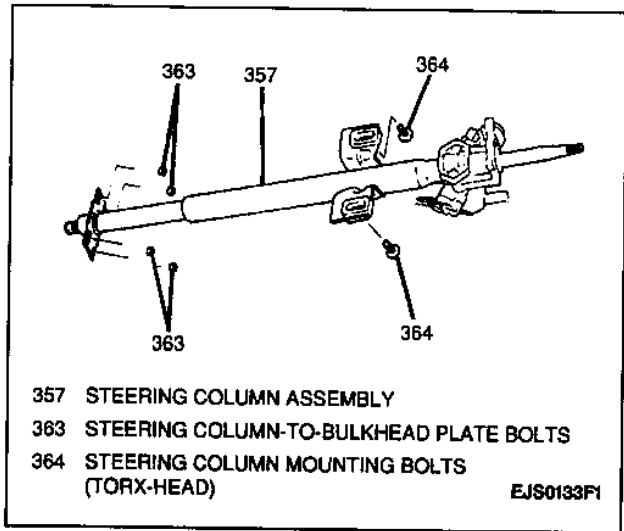

Figure 17—Steering Column Fasteners
8. Four bolts from the steering column-to-bulkhead plate (Figure 17).